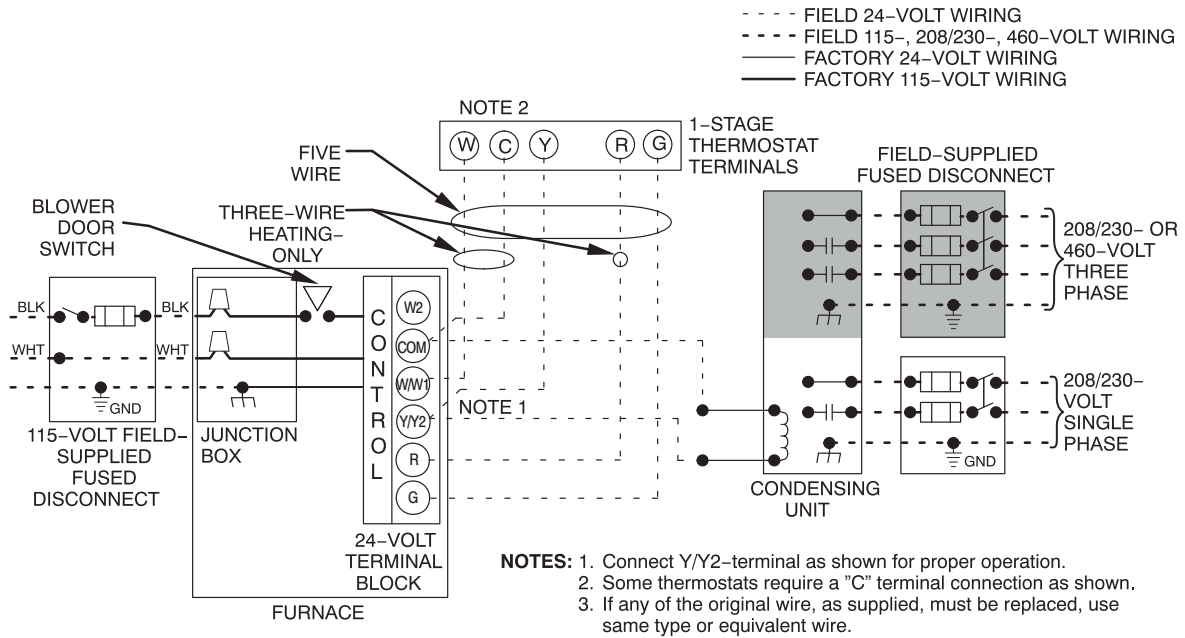

Fig. 37 – Typical Two-Stage Field Wiring Diagram
6. Connect power cord power and neutral leads to furnace power leads as shown in **Fig. 37**.
5. Connect field power and neutral leads to furnace power leads, as shown in **Fig. 37**.
Make field 24-v connections at the 24-v terminal strip. See **Fig. 38**. Connect terminal Y/Y2 as shown in **Fig. 37** for proper cooling operation. Use only AWG No. 18, color-coded, copper thermostat wire.